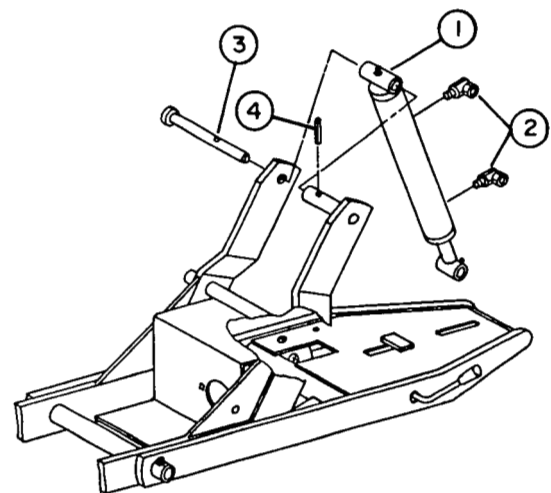

FIGURE 2
- e) On the  $2"$  x  $6\ 1/4"$  lift cylinder (fig.2, item 1) install two  $90^\circ$  elbows (fig.2, item 2),  $1/4"$  male x  $1/4"$  female swivel in cylinder port using thread sealant. Cylinder base end being 12 o'clock, place base end elbow at approximately 10 o'clock and rod end elbow at 12 o'clock.
- f) Install lift cylinder base end (fig.2, item 1) between the welded tube and side plate of subframe. Attach cylinder base end in place with a  $3/4"$  x  $6\ 5/8"$  pin (fig.2, item 3) making sure the hole in the pin is vertical. Lock the pin in place using a  $1/4"$  x 1" roll pin (fig.2, item 4).